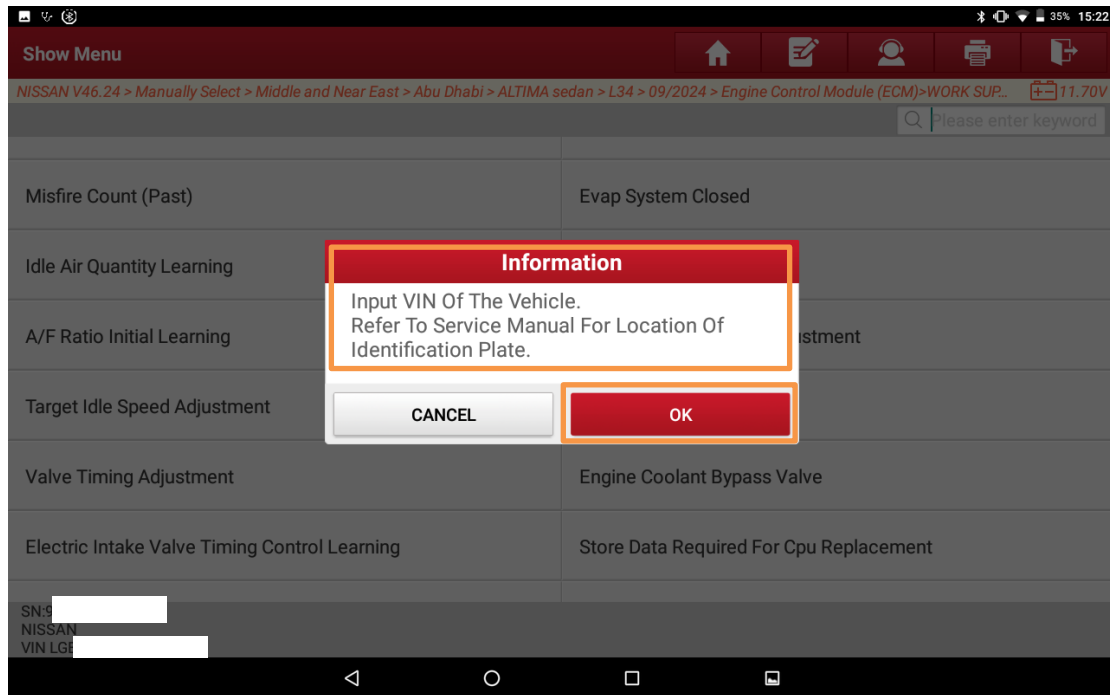

Figure 11
7. Read the pop-up prompts carefully (Figure 11). Locate the vehicle identification plate according to the service manual and check the vehicle's actual VIN. Click "OK" to enter the VIN registration function interface.